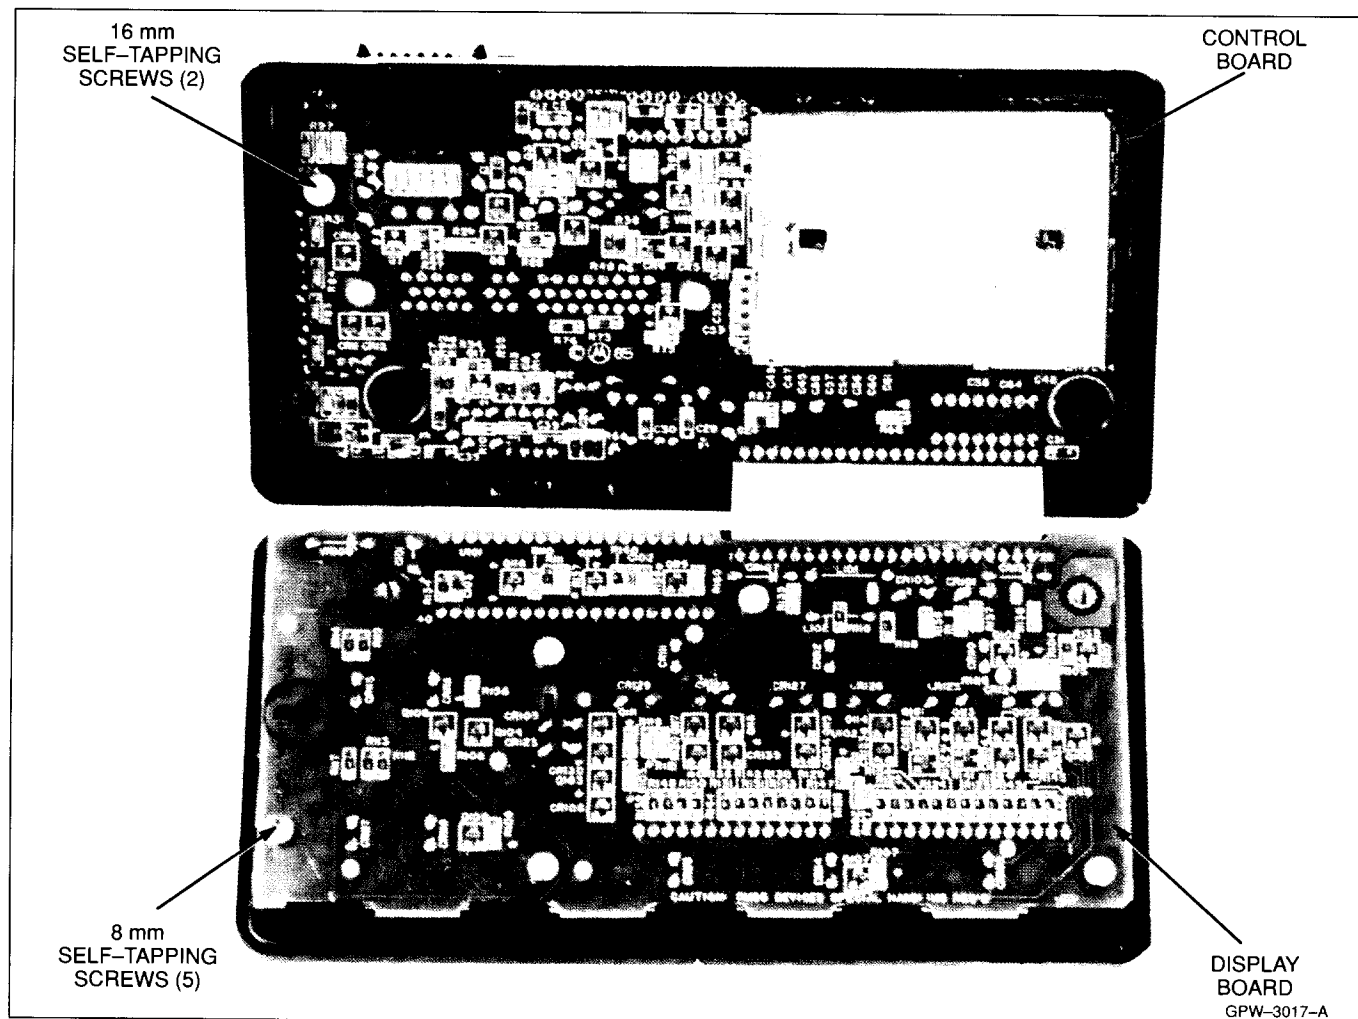

Figure 3. Disassembly of the Control Unit
4.1 DISASSEMBLY OF CONTROL UNIT (SEE FIGURE 3)